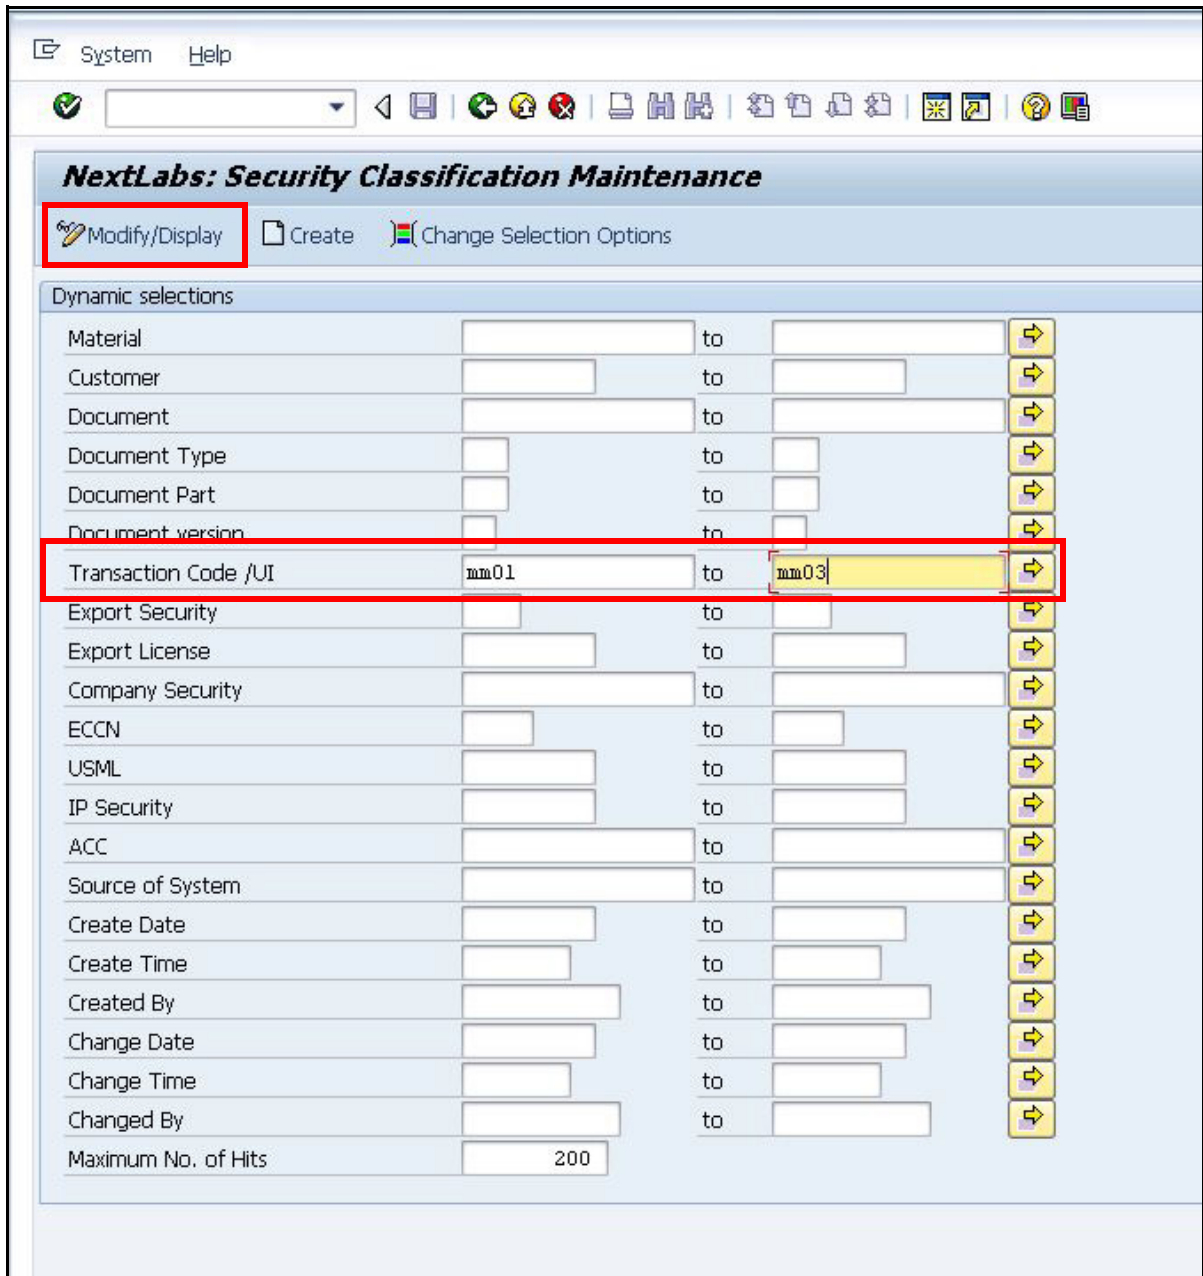

Figure 6-6: Additional Options in the Selection Screen
**Note:** In Figure 6-6, because we selected additional selection options, we now have more options to use for selection. A warning message might display if a user enters selection options that retrieve a large number of records. The number of records that trigger this warning is configured in CONCFG. For more information, see Configuring SAP Data Handling and Connection Settings on page 92.